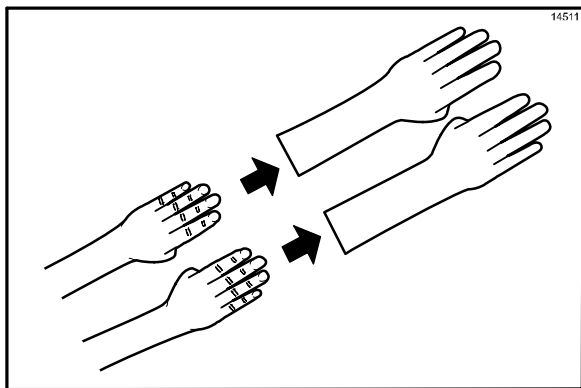

Figure 71
6. Put on heat-resistant gloves. (See Figure 71.)